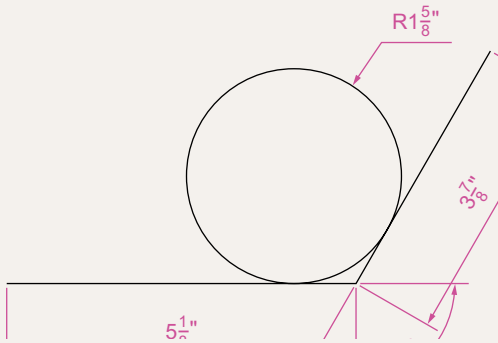

Fig. 2.33 Exercise 6
- Using the Line tool, construct the two lines at the length and angle as given in Fig. 2.33. Then with the Ttr prompt of the Circle tool, add the circle as shown.